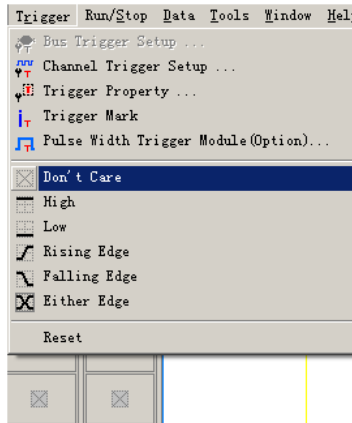

Fig 4-24 – Trigger Menu
3. Click **Trigger** on the Menu Bar and choose a trigger condition from the list of triggers as shown in Fig 4-24.